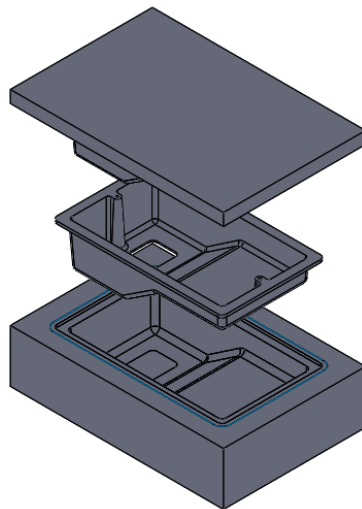

Figure 21-48 Exploded view of the Mold base assembly
- g. Explode the assembly, refer to Figure 21-48.
2. Using the **Exploded View** in **Assembly CommandManager**, explode the Mold base assembly, refer to Figure 21-48.